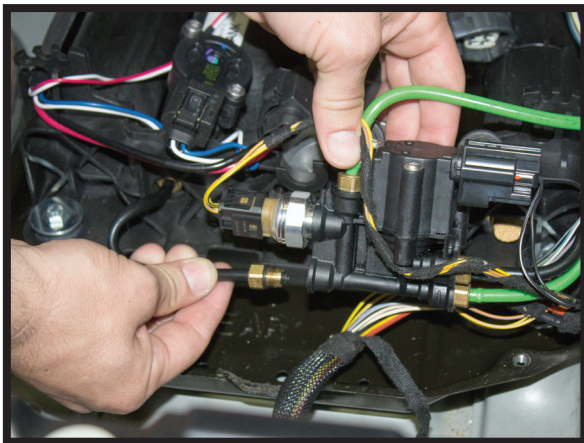

FIGURE 18
2. CONNECT THE PRE-INSTALLED AIR FITTING TO THE VALVE BLOCK. (FIGURES 18, 19)